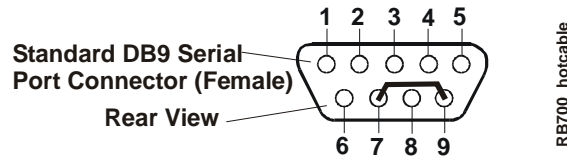

Figure 3-3. Hot Cable Jumper
To convert a standard serial cable to a Hot Cable, certain pins must be shorted together at the Serial port connector or at the DB9 connector. For example, short the RTS (7) and RI (9) on the respective DB9 port connector as shown in Figure 3-3.